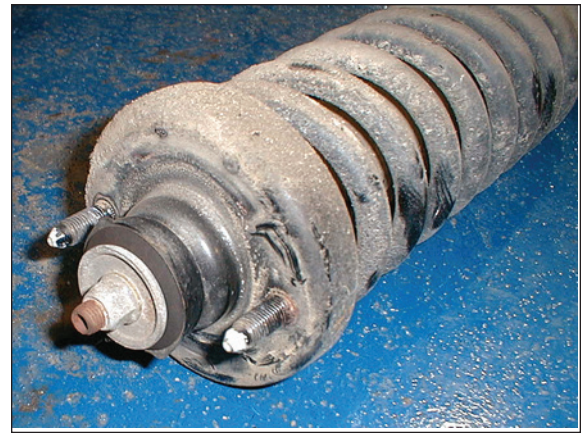

Figure 5
1. Remove the top strut mount from the stock strut. Retain the large washer on the top and all of the rubber pieces including the rubber spring isolator that is on the inside above the spring. Also remove and retain the steel spacer that goes on the inside of the strut mount bushings (Figure 5).